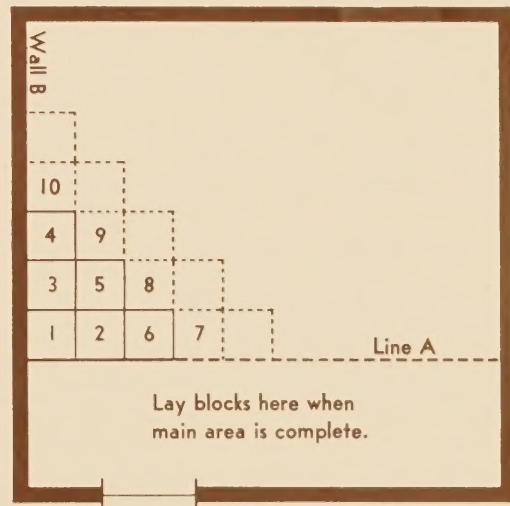
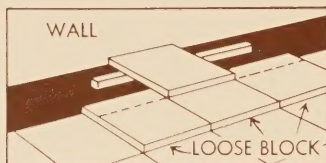

FIG. 4
FIG. 6
Step 2: (See Fig. 4) Next, lay Blocks 2 and 3, fitting tongues and grooves with Block No. 1 as required. Follow with Blocks 4, 5, and 6, establishing a staggered or "saw-tooth" pattern across the corner of the room as shown in Fig. 6.
Step 2: As in Fig. 6 on top of these loose blocks place another block flush against the wall. (A thin piece of wood laid on adhesive will keep your block clean while you are measuring).